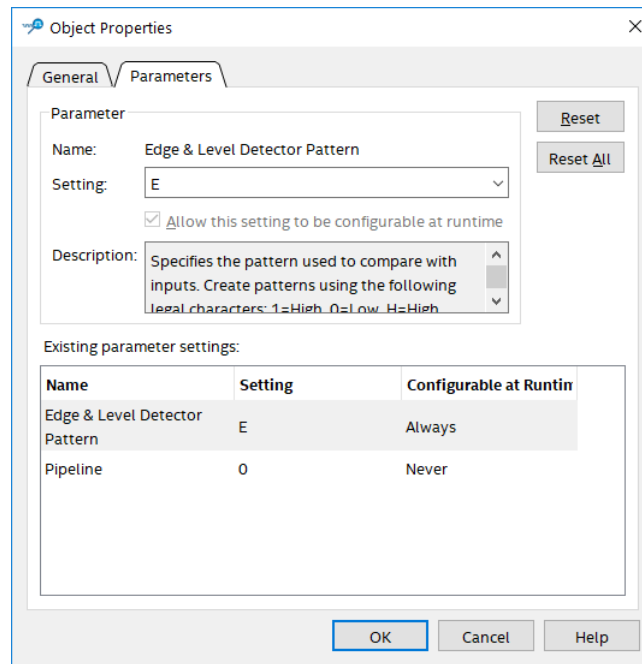

Figure 21. Type E in the setting box so that the function triggers on both rising and falling edges.
- We now need to set each edge and level detector to sense either a falling edge or a rising edge. Double click one of the edge and level detectors, bringing up the window in Figure 21. Type E in the setting box and then click OK. This will mean that the detector will output 1 whenever there is either a falling edge or a rising edge of its input. Repeat this step for the two remaining edge and level detectors.